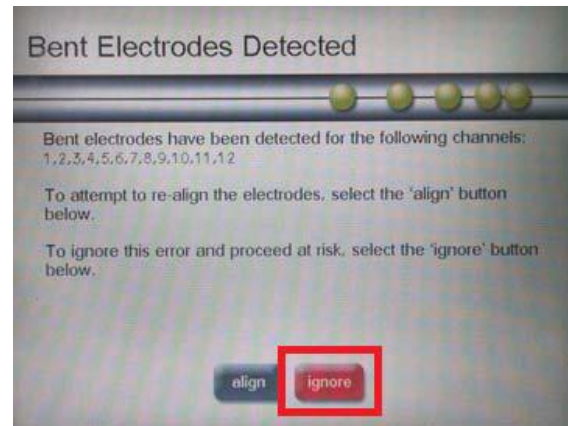

Figure 125: 'Bent Electrodes Detected' screen
5. Approximately 10 minutes after initiating the dry run, you will receive a 'bent electrode' error message (**Figure 125**). This is expected as there is no liquid in the blank cartridge. To continue with the run, choose 'IGNORE' and the Prep Station will continue running the rest of the protocol.